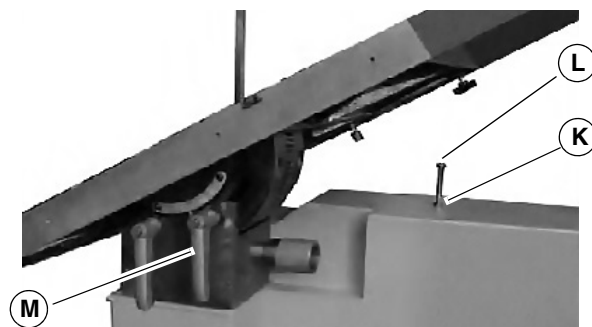
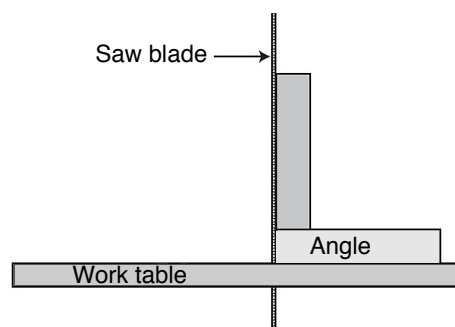

Fig. 17: Perpendicularity of the work table
Fig. 18: Measuring the right angle
Step 1: Release the locking lever (Pos. M, Fig. 17) on the worktable.
Step 2: Loosen the hexagon nut (Pos. K, Fig. 17) on the stop screw (Pos. L, Fig. 17).
Step 4: Place a right angle on the work table and put it against the saw band (Fig. 18).
Step 5: Turn stop screw (Pos. L, Fig 17) to the left or right to adjust the height or depth of the worktable. Adjust the worktable so that the table is at a 90° angle (at right angles) to the saw blade (Fig. 18).
Step 6: Once the right angle is set, tighten the hexagonal nut (Pos. K, Fig 17).
Step 7: Tighten the locking lever (Pos. M, Fig 17) on the worktable.